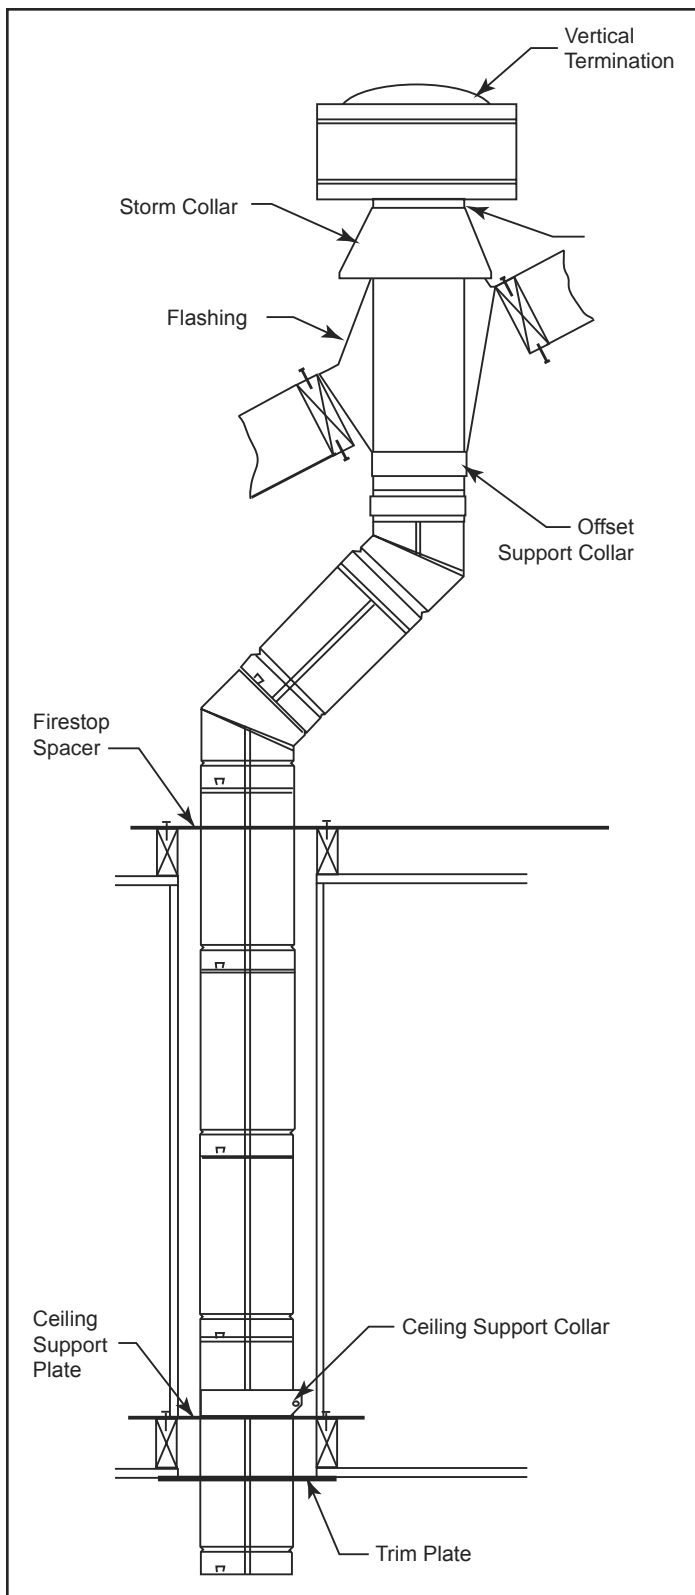

Figure 3.23 - Typical Vertical Venting Configuration
- Vertical installations up to 40' (12 m) in height. Up to a 10' (3 m) horizontal vent run can be installed within the vent system using a maximum of two 90° elbows. Figure 3.23
- Two sets of 45° elbow offsets may be used within the vertical sections. From 0 to a maximum of 8' (2.5 m) of vent pipe can be used between elbows. Figure 3.23.